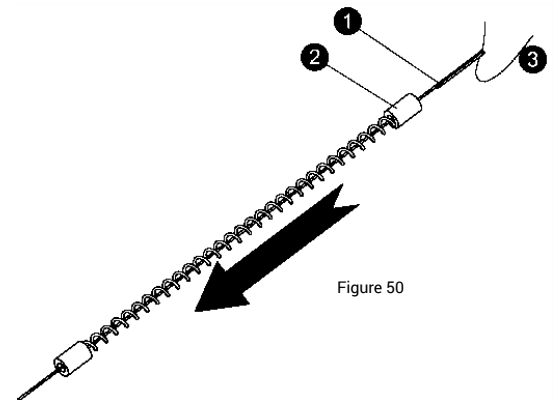

Figure 50
9. Hook the thread around the threading tool. See No. 3 in Figure 50.
10. Insert the threading tool into the removed plastic tube and follow the direction as seen in the example. See No. 1 in Figure 50.